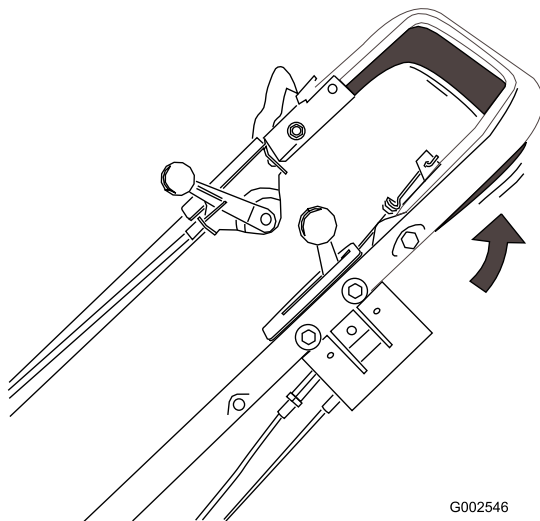

Figure 15
3. Squeeze the traction control bar against the handle (Figure 15).